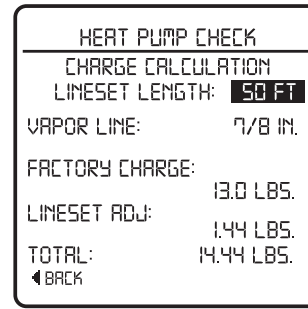

Fig. 9 - Required Charge Adjustment Calculated in UI
1. After system is evacuated, close the disconnects to energize the ID and OD units to assess the user interface (UI), **Keep system in off mode.** Under the Advanced function menu, assess the REQUIRED CHARGE CALCULATION screen. Enter the lineset length and vapor tube diameter. The user interface (UI) will now display the required charge adjustment (see Fig. 9) for the lineset and an adjustment for a large indoor coil if recognized as such by the UI.